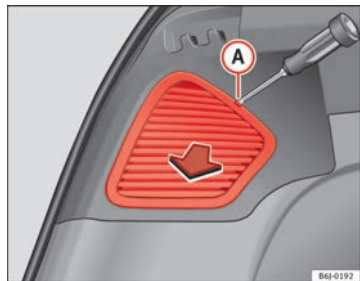

Fig. 169 Side lights
- Remove the lid with a flat screwdriver, placing it in notch **A** ⇒ fig. 169.